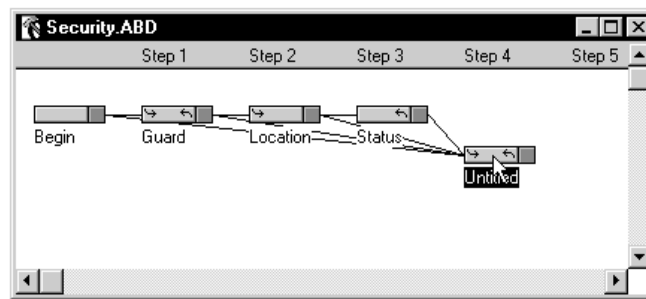

Figure 4-6 Click and Drag New Input Handler
6. To verify that the new Input Handler is attached to each of the other Input Handlers, click and drag the new Input Handler down the window (Figure 4-6). You should see connecting lines between the new Input Handler and each previous Input Handler.